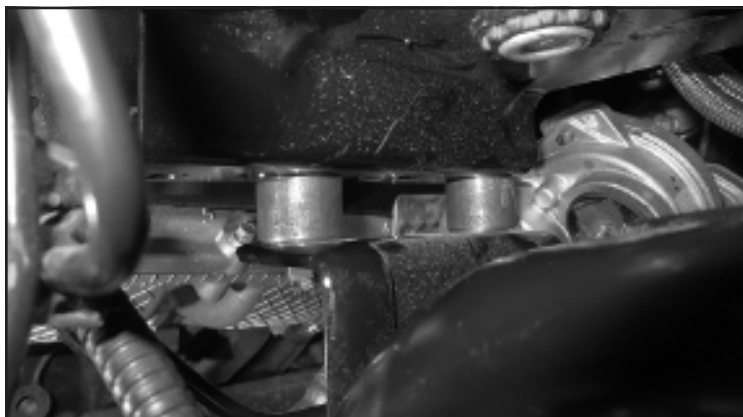

FIGURE 4 - STEP 8
8. **2020-2022 Models** - Install two FT30929 (ABS Module spacer) between the ABS bracket and the upper shock mount bracket using the supplied 5/16" x 1-1/2" bolts, washers and nuts. **SEE FIGURE 4**